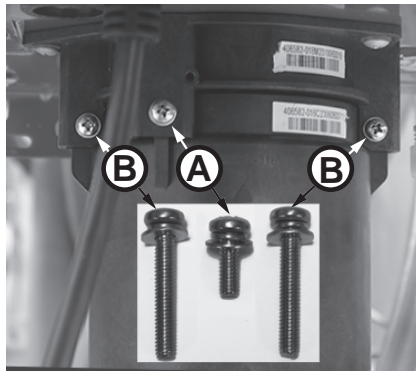

Figure 226 - Identify cartridge screws
- 6** Locate the three (3) screws securing the X3®/Bypass cartridge as shown in Figure 226. Remove the **(A)** M4-12mm screw and the two **(B)** M4-25mm screws from cartridge. Place screws aside in a safe place for reinstallation.